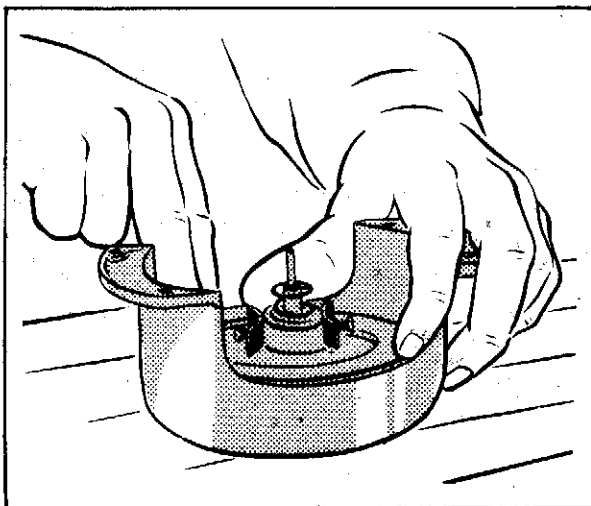

Fig. P14
Now fit the other friction washer (7), a thrust washer (6), friction spring (10), large plain washer (11) and "E" type circlip (12). Fig. P14.